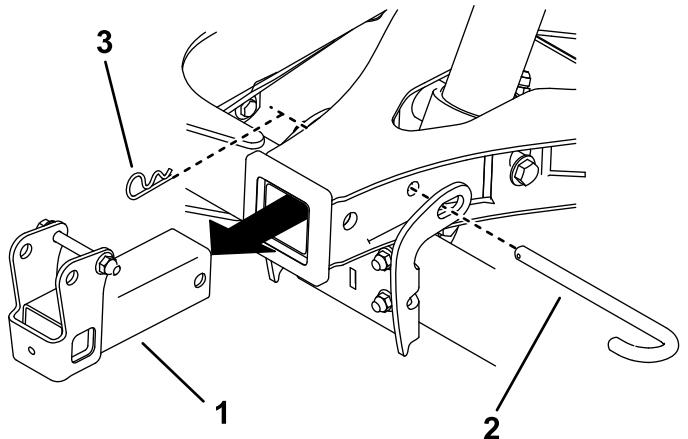

Figure 24
7. Remove the hitch pin, cotter pin, and hitch receiver from the A-frame. Install the hitch pin and cotter pin to secure the A-frame (Figure 24).